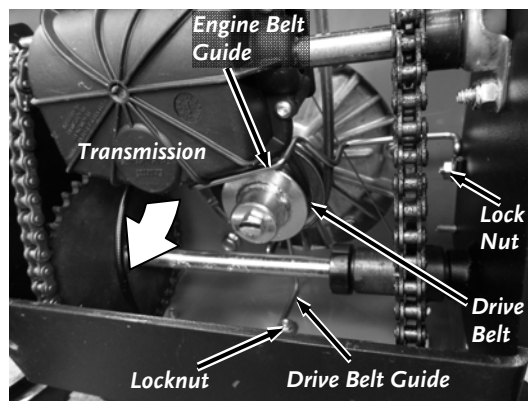

Figure 37
8. Loosen the rear Drive Belt Guide Locknut using a 7/16" Wrench and rotate the Guide out of the way (**Figure 37**).
17. Tighten the Belt Guide Locknut (**Figure 37**).